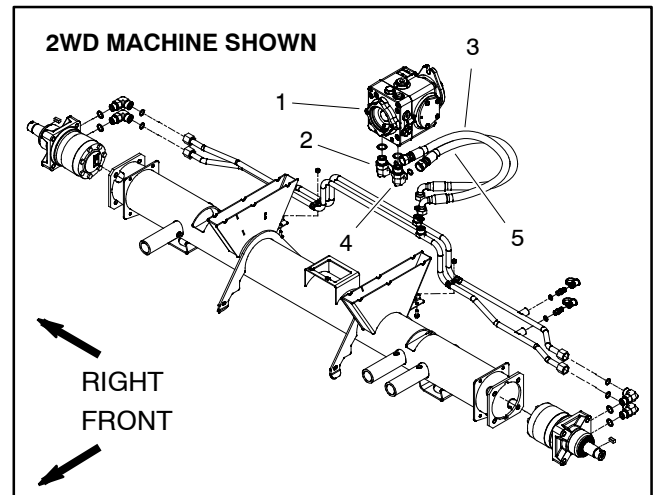

Figure 38
5. Thoroughly clean junction of hydraulic hose and **right** side fitting on bottom of piston (traction) pump (Fig. 38). Disconnect hose from right side pump fitting.